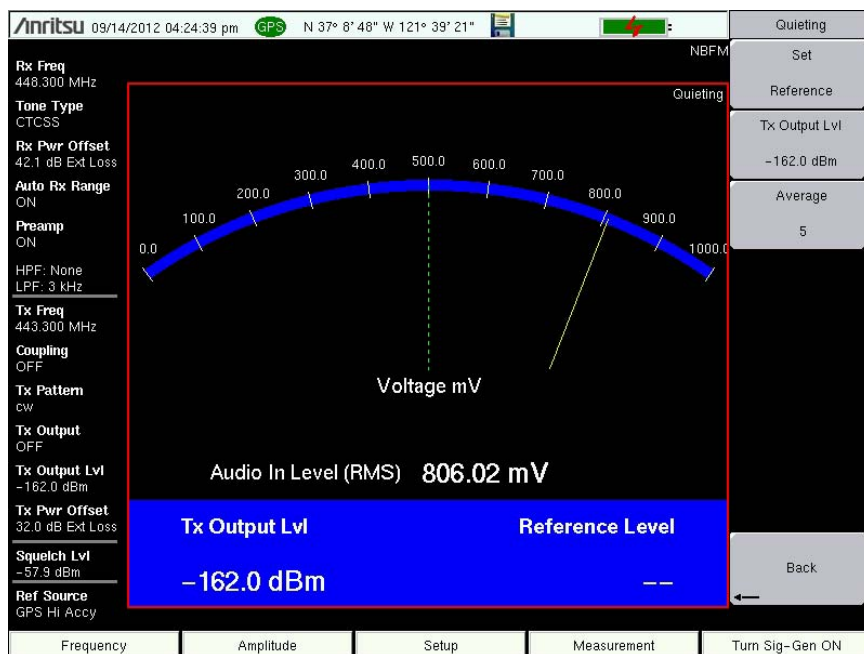

Figure 2-7. 20 dB Quieting, Ready to Set Reference Level
6. Turn on the radio and set the radio audio level to the manufacturer's rated audio output level. The RMS voltage level present at the Audio In port is displayed below the meter for convenience. Refer to the radio maintenance manual to determine this level. This is the audio level used for measuring 20 dB quieting (Figure 2-7 on page 2-9).